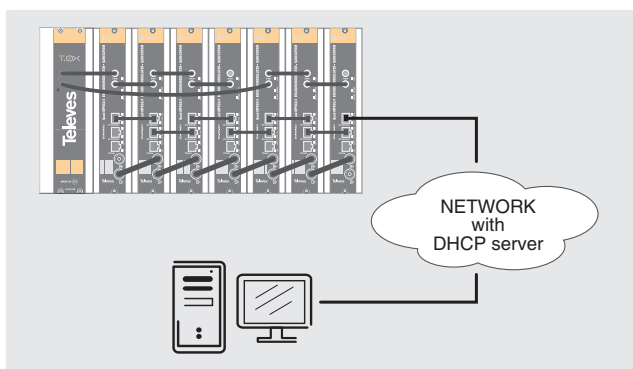
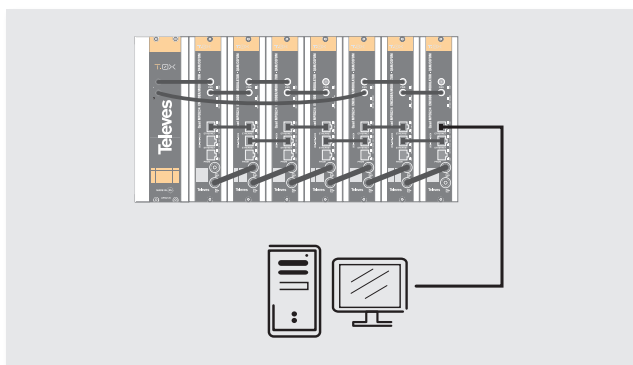

Figure 3 - Rack with DHCP server.
Figure 4 - Rack without DHCP server.
3. If a network is available that provides IP addresses through DHCP, connect the encoders to the network as shown in Figure 3. If such a network is not available, then a computer will need to be connected as shown in Figure 4.